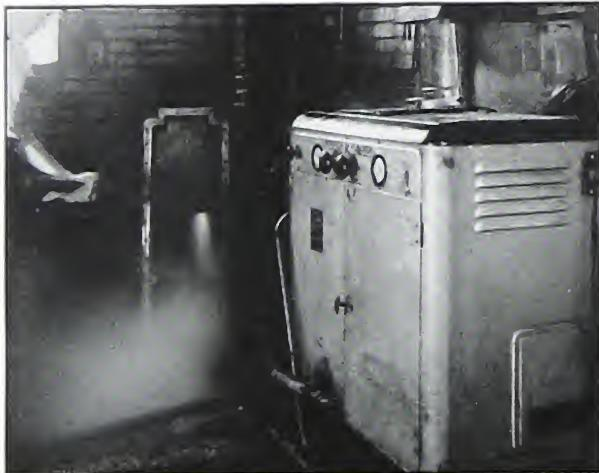

Fig. 1-3. Steam cleaning the engine
2. A portable, fuel oil or electric heated steam cleaner such as the one illustrated in Fig. 1-3 is very satisfactory for general use on Cummins engines. This type cleaner can be used either in the cleaning room or in the yard.